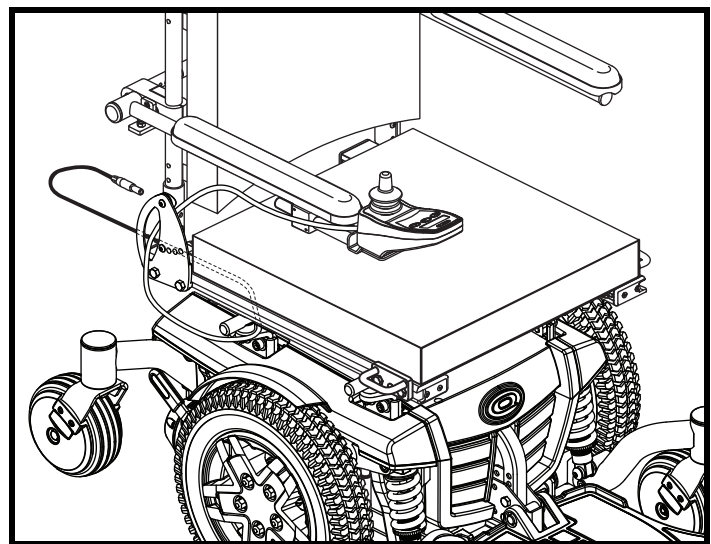

Figure 8. Controller Harness Routing on a Synergy Seat
4. Install the controller and route the harness to the back of the power base. See figures 8 or 9.